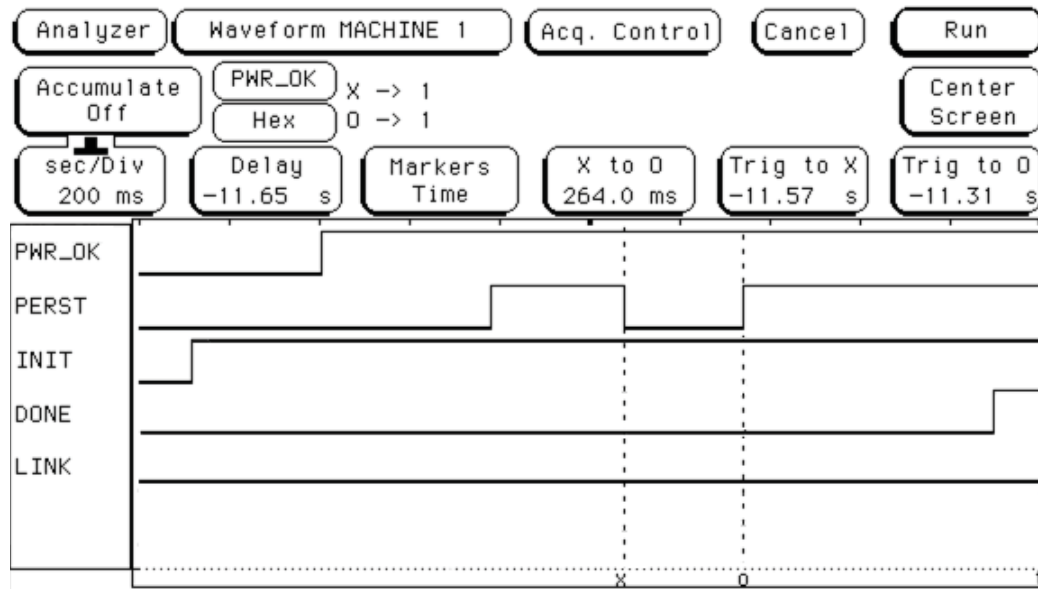
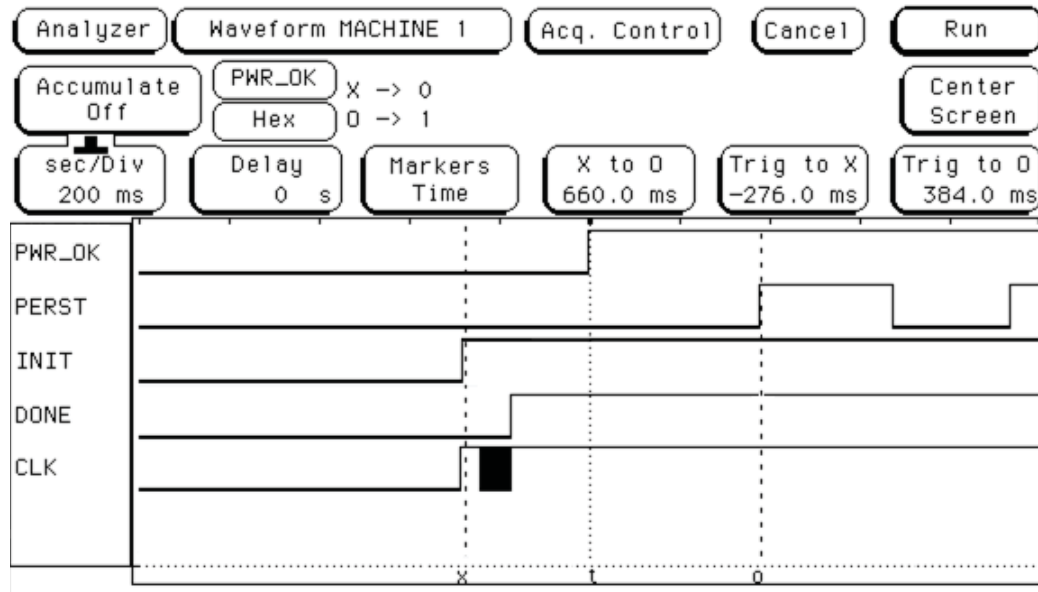

Figure 3-86: Host Fails to Recognize FPGA Due to Slow Configuration Time
Figure 3-87: Host Successfully Recognizes FPGA
This section presents data from an ASUS PL5 system to demonstrate the relationships between Power Valid, FPGA Configuration, and PERST#. Figure 3-86 shows a case where the Endpoint failed to be recognized due to a FPGA configuration time issue. Figure 3-87 shows a successful FPGA configuration with the Endpoint being recognized by the system.
Figure 3-86 illustrates an example of a cold boot where the host failed to recognize the Xilinx FPGA. Although a second PERST# pulse assists in allowing more time for the FPGA to configure, the slowness of the FPGA configuration clock (2 MHz) causes configuration to complete well after this second deassertion. During this time, the system enumerated the bus and did not recognize the FPGA.
Figure 3-87 illustrates a successful cold boot test on the same system. In this test, the CCLK was running at 50 MHz, allowing the FPGA to configure in time to be enumerated and recognized. The figure shows that the FPGA began initialization approximately 250 ms before PWR\_OK. DONE going High shows that the FPGA was configured even before PWR\_OK was asserted.
1. Check if the motherboard and BIOS generate multiple PERST# pulses at start-up. This can be determined by capturing the signal on the board using an oscilloscope. This is similar to what is shown in Figure 3-86. If multiple PERST# pulses are generated, this typically adds extra time for FPGA configuration.